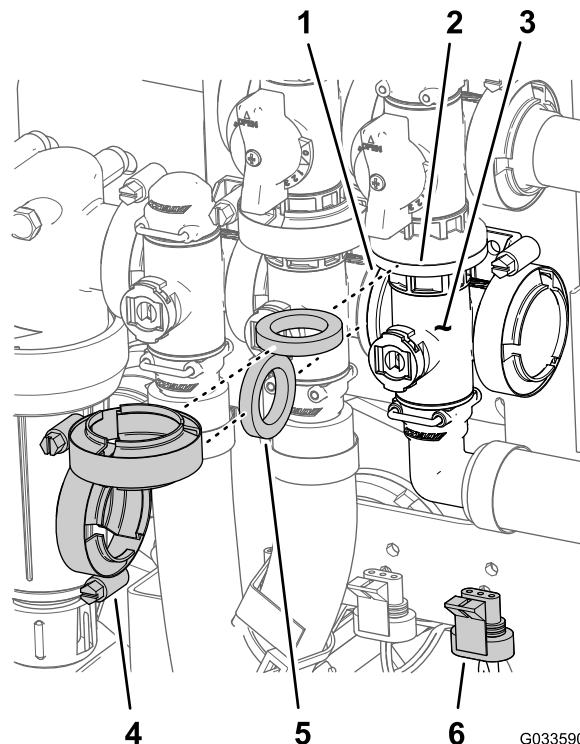

Figure 129
1. Align the flange of the master-boom-valve manifold, a gasket, and the flange of the master-boom bypass valve (Figure 129).
2. Assemble the master-boom valve manifold, gasket, and master-boom bypass valve with a flange clamp tightened hand tight (Figure 129).
3. Align the flange of the master-boom-valve manifold, a gasket, and the agitation-valve manifold (Figure 129).
4. Assemble the master-boom-valve manifold, gasket, and agitation-valve manifold with a flange clamp and tighten by hand (Figure 129)
7. Assemble the agitation valve to the valve mount with the flanged-head bolt and flanged locknut (Figure 129) that you removed in step 3 of Removing the Master Boom Manifold Valve \(page 81\) and torque the nut and bolt to 10 to 12 N·m (90 to 110 in-lb).